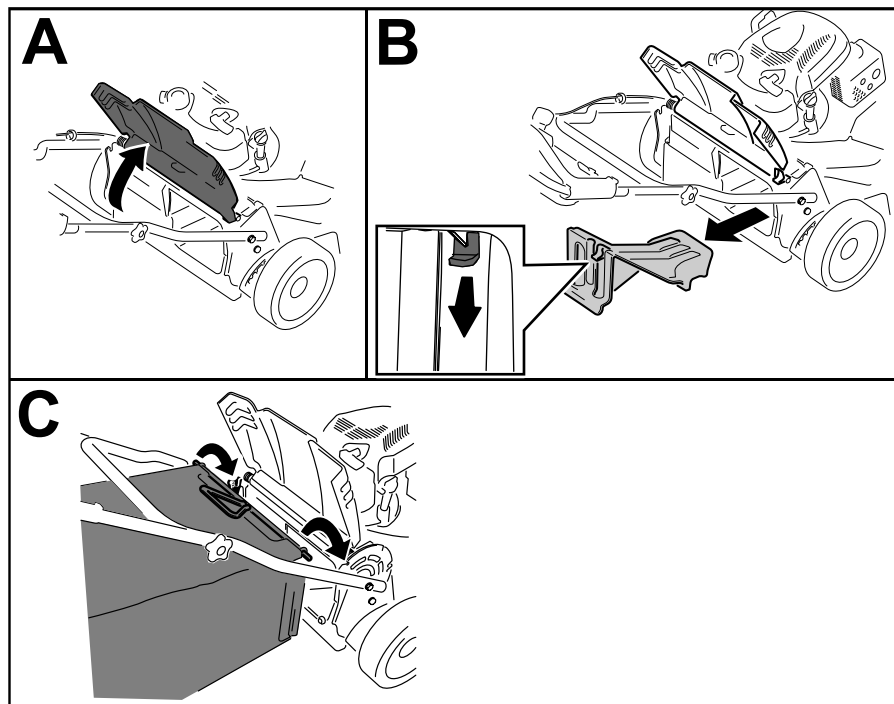

Figure 24
1. Raise and hold up the rear door (A of Figure 24).
2. Remove the rear-discharge plug by pulling down on the latch with your thumb and pulling the plug out from the machine (B of Figure 24).
3. Install the bag rod into the notches at the base of the handle and rock the bag back and forth to ensure that the rod is seated at the bottom of both notches (C of Figure 24).